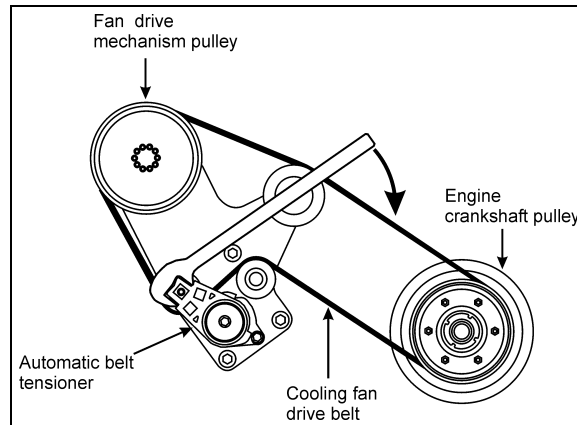

FIGURE 46: DRIVE BELT ROUTING (VOLVO D13 ENGINE) 05127
1. Wrap the new drive belt around the fan drive mechanism pulley, the idlers and the automatic tensioner idler as shown on Figure 46.
2. Using the special tool included with your vehicle (see inside the Warning Reflectors box located in the first curb-side baggage bay), rotate the automatic tensioner in clockwise direction to relieve tension on the belt and hold the tensioner in that position (Figure 46).